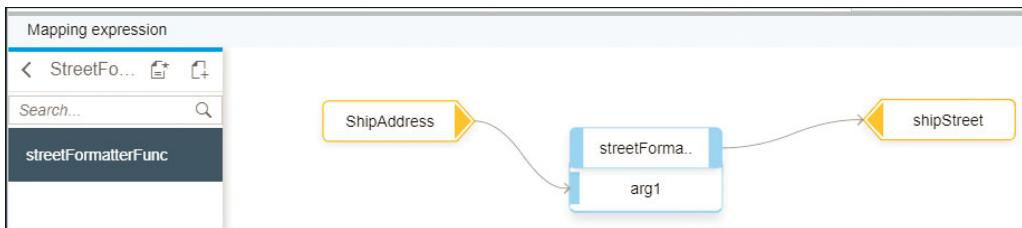

Figure 9.8 Inserting the UDF in Your Mapping Logic
11. Click on the **StreetFormatter** UDF to see its method name. In our example, it's called **streetFormatterFunc** (see Figure 9.8). Note that the **streetFormatterFunc** comes from the name that we provided for the Groovy method in Figure 9.6.
12. Let's now use the new function by dragging it between **ShipAddress** and **shipStreet**, as shown in Figure 9.8.